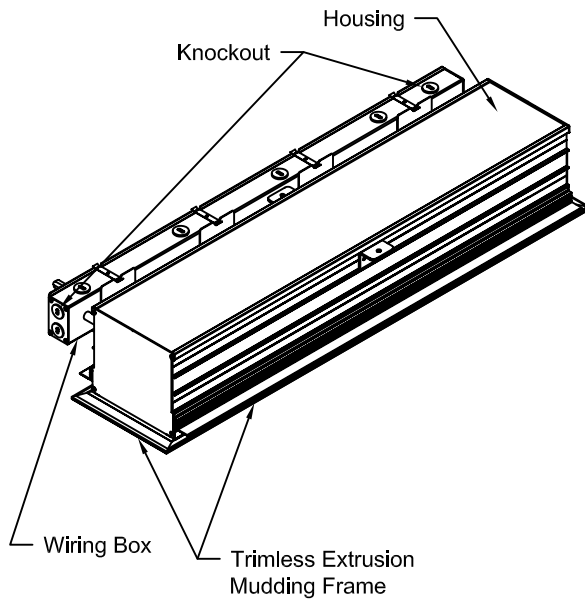
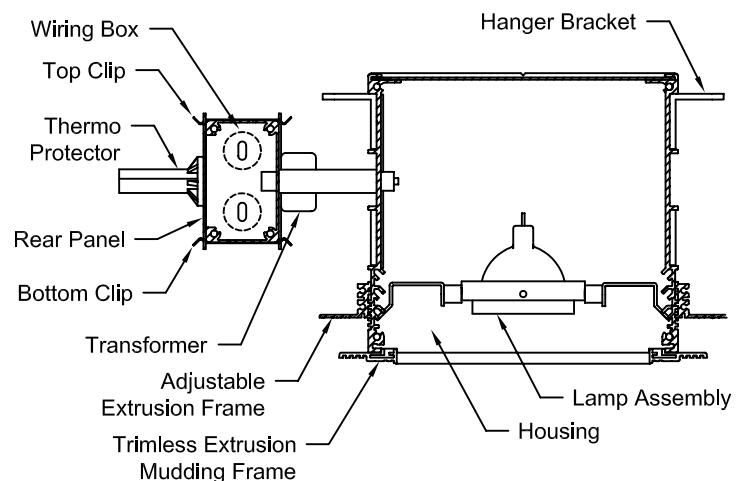
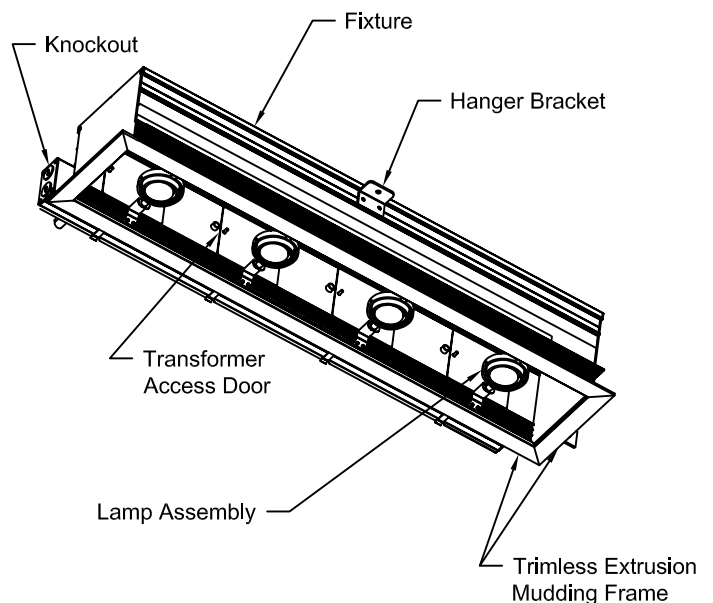

Figure 1
Figure 2
Figure 4
1. Locate Trimless Extrusion Mudding Frame on Housing. See Fig. 1.
1. Hang Housing(s) from Hanger Brackets located on sides of Fixture(s) using 1/4-20 Screw. See Fig. 2 and Fig. 4.
1. Locate Transformer Access Door behind each Lamp Assembly. See Fig. 4.
3. Remove Two (2) Knurled Knobs at each side of Access Door.
2. Connect Wiring Box to Electrical Service using Knockouts located at each end of Wiring Box and/or Knockouts along top of Wiring Box as needed. See Fig. 1, Fig. 2 and Fig. 4.
3. To remove Rear Access Panel(s) for inspection, lift Clips at Top and Bottom of Wiring Box. See Fig. 2.